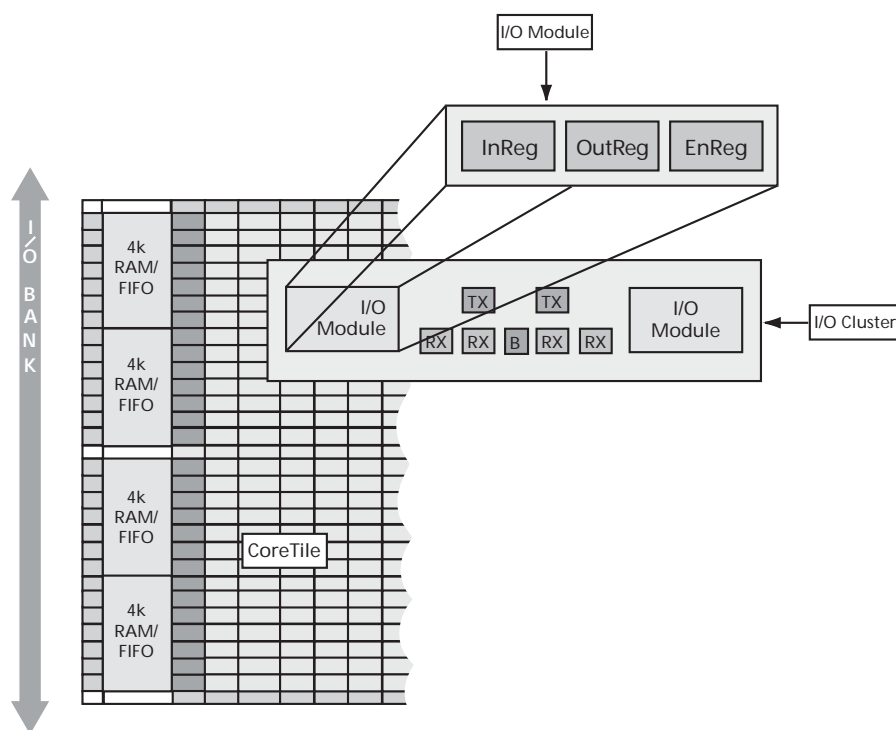

Figure 1-7 • I/O Cluster Arrangement
Each I/O module has an input register (InReg), an output register (OutReg), and an enable register (EnReg) (Figure 1-7). An I/O Cluster includes two I/O modules, four RX modules, two TX modules, and a buffer (B) module.